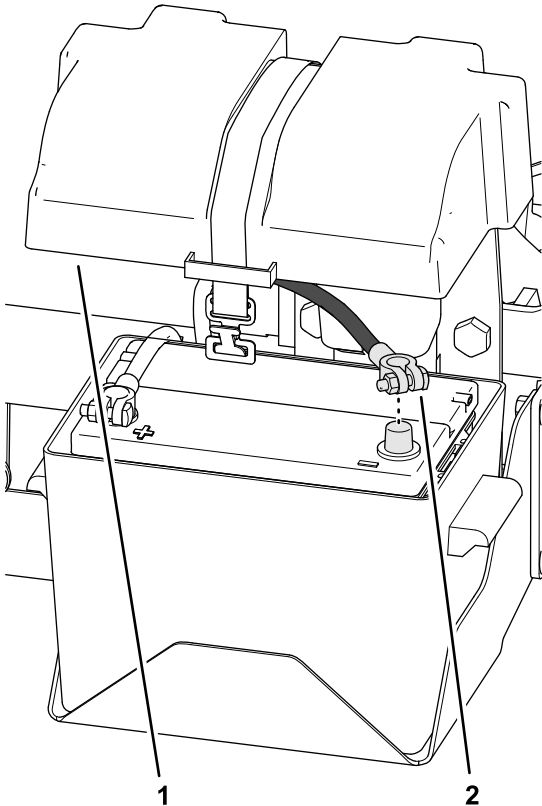

Figure 3
1. Remove the cover from the battery box (Figure 3).
2. Remove the negative-battery cable from the battery (Figure 3).